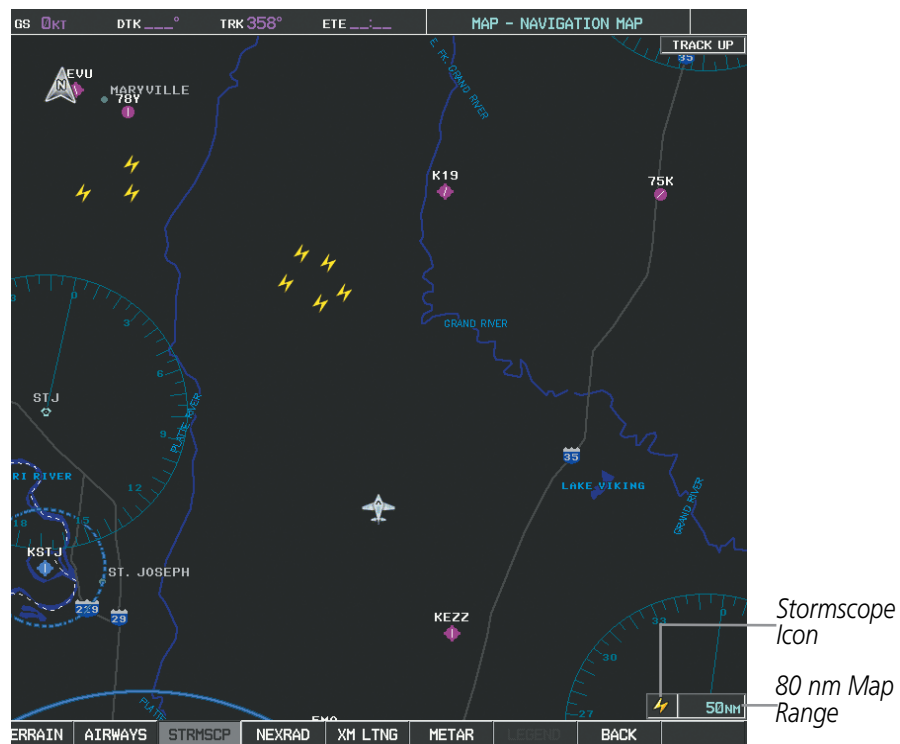

Figure 6-116 Navigation Map Page with Stormscope Lightning Data
- 7) Press the **FMS** Knob to return to the Navigation Map Page (Figure 6-116).
On the Navigation Map, cell mode identifies cells of lightning activity (Figure 6-116). Stormscope identifies clusters of electrical activity that indicate cells. Strike mode indicates the approximate location of lightning strikes.